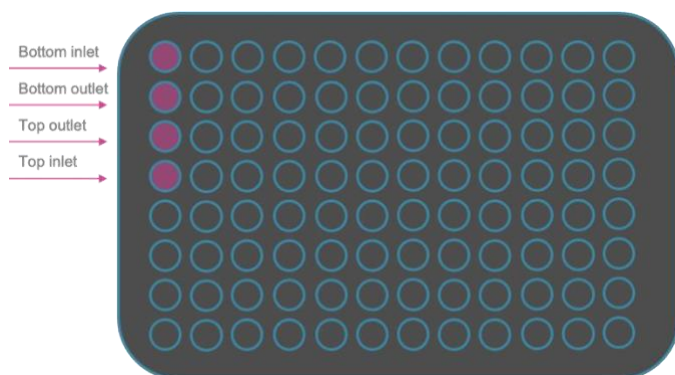

Figure 15: Effluent Sampling. A. Multichannel collecting effluent from the Pod. B. Medium dispensed in the 96 well black bottom plate.
- a. Collect effluent from the indicated regions; avoid disturbing the Pod reservoir vias (See Figure 15).
2. Adjust the volume to 50  $\mu\text{L}$  and use a standard multichannel pipette to collect effluent and media from all the four reservoirs simultaneously by placing the pipette tips into the Pods, ensuring one tip is in each reservoir (see Figure 15 above).